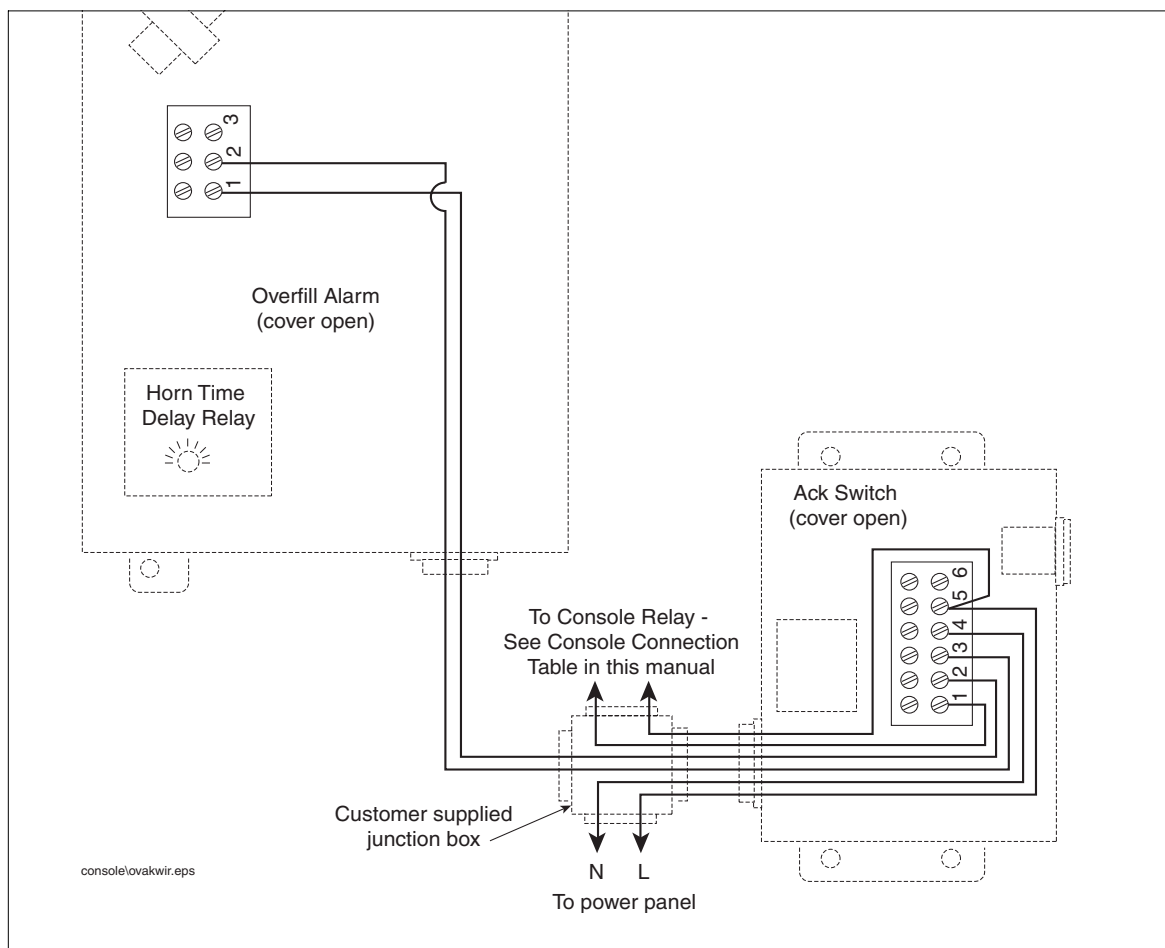

Figure 3. Overfill Alarm/Acknowledgement Switch wiring connections
5. Turn power Off and connect wiring according to the wiring diagram in Figure 3 and Table 1.
Overfill Alarm with Acknowledge Switch (see Figure 3)